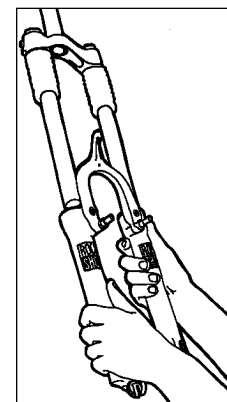

Fig. 5
3. Slide off one-piece lower tube assembly (see Fig. 5). Remove fork boots.